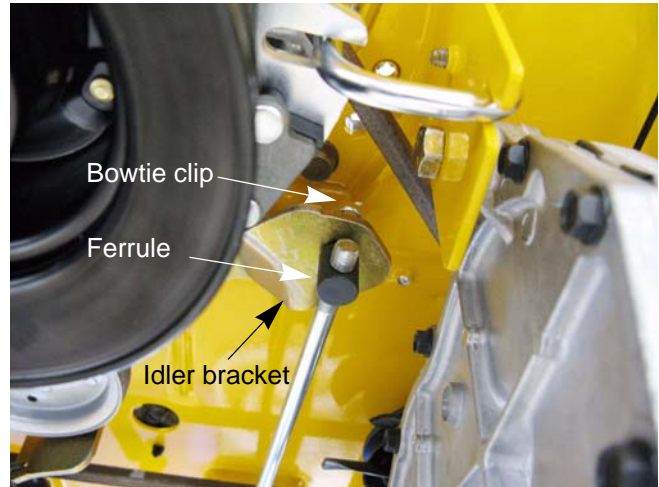

Figure 4.22
3. Remove the bow tie clip and washer from the ferrule on the end of the brake link. See Figure 4.22.